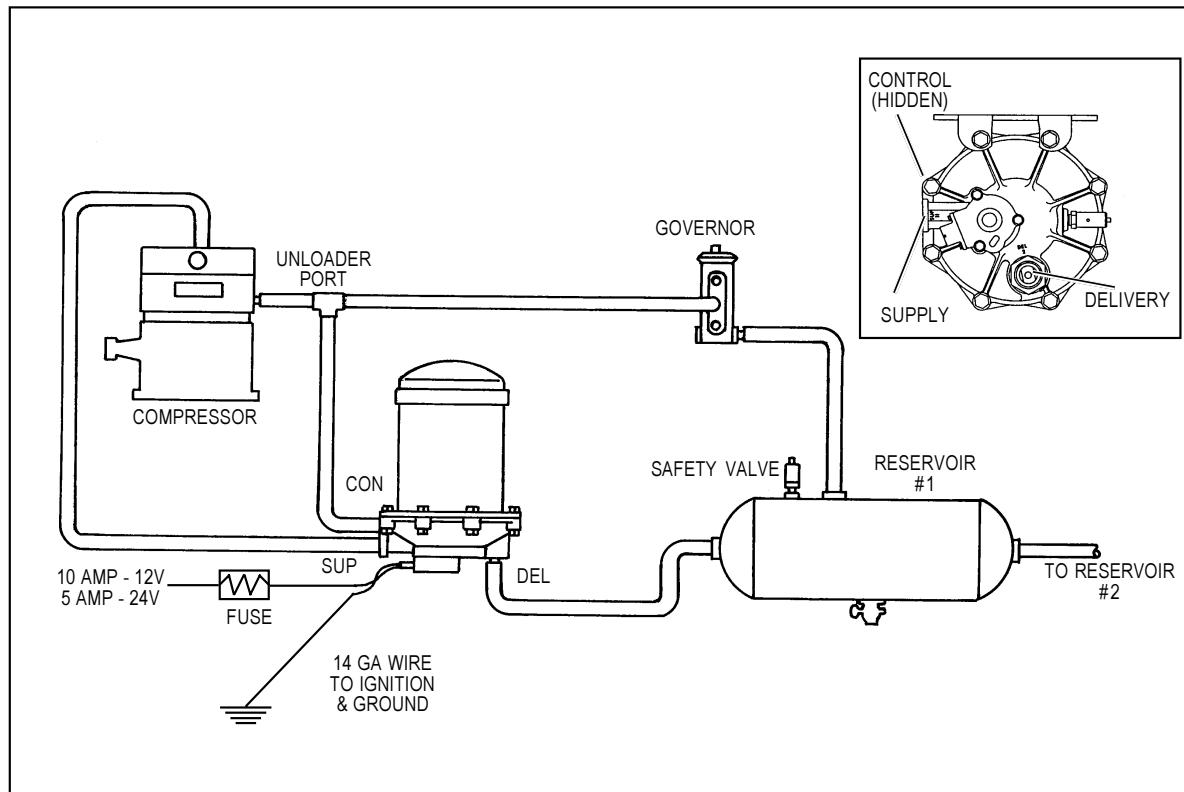

FIGURE 2 - AD-9 CHARGE CYCLE
- To install the lower mounting bracket on the AD-9 air dryer, it will be necessary to remove and discard two of the end cover bolts and lock nuts. To determine which end cover bolts to utilize to attach the lower bracket, take into consideration the piping connections required to install the AD-9 air dryer and use those that will best position the unit for ease of installation. Locate the bracket such that it cradles the end cover as shown in Figure 2. Utilizing the two 2-3/8" long cap screws, lock nuts and special washers provided with the AD-9 air dryer retrofit unit, attach the lower mounting bracket and torque to 270-385 in. lbs.